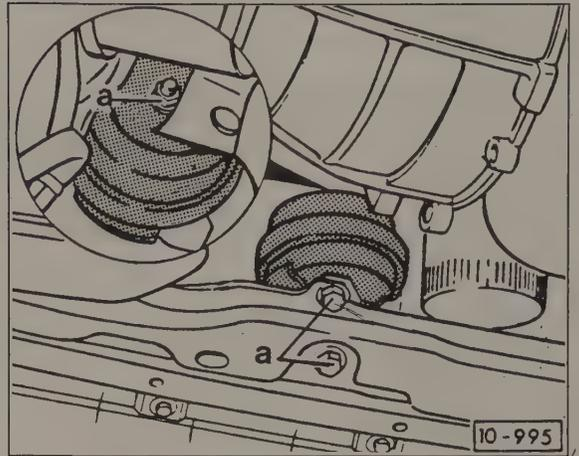

Fig. 6-18. Front hydraulic engine/transaxle mounting bolts **a**. Earlier rubber mount is similar.
- Remove the front engine and transaxle mount as shown in Fig. 6-18. Completely remove it from the car.